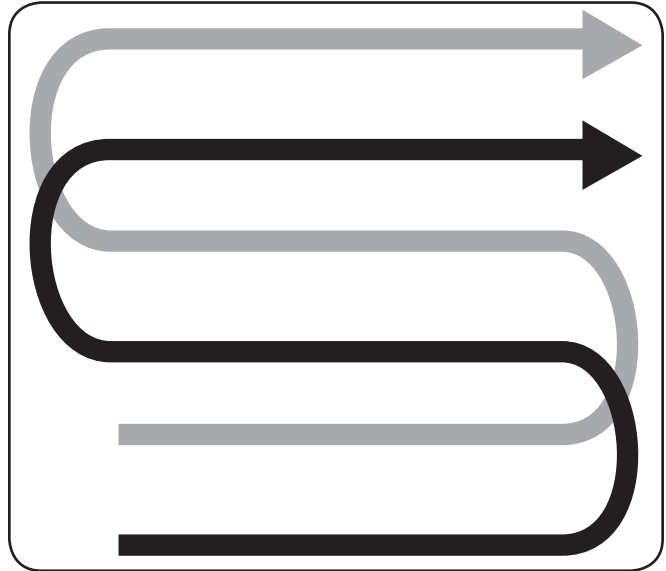

Figure 5-4
- When preparing a seedbed, go over the same path twice in the first row, then overlap one-half the tiller width on the rest of the passes. See Figure 5-4.